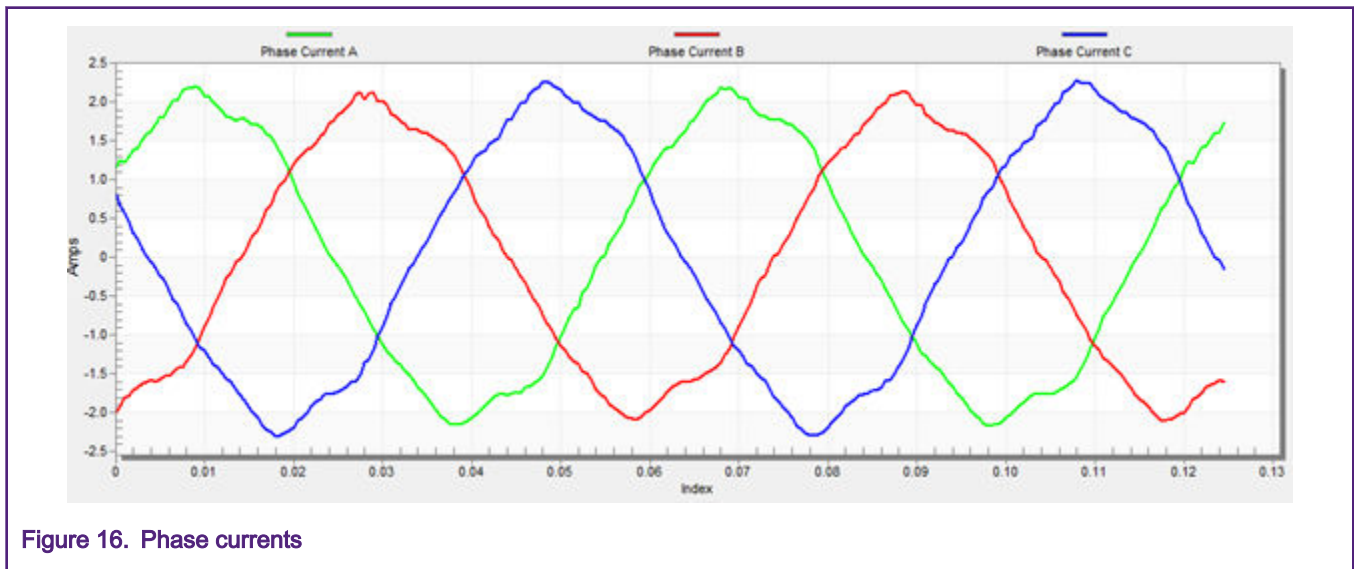

Figure 16. Phase currents
- The optimal ratio for the V/Hz profile can be found by changing the V/Hz factor directly or using the UP/DOWN buttons. The shape of the motor currents should be close to the sinusoidal shape (see Figure 16).